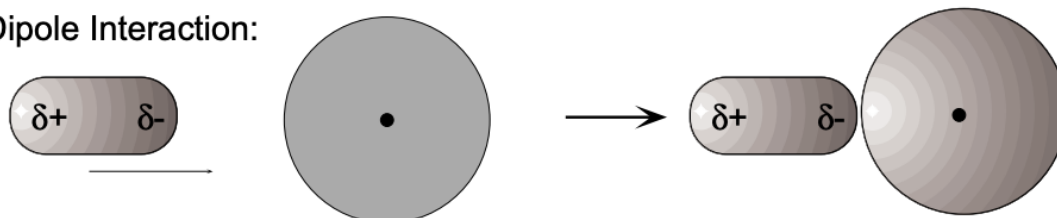

Figure 11
2. **Dipole-Induced Dipole Interaction:** A dipole in one molecule can interact with and polarize the electrons of a neighboring non-polar molecule, thus generating an induced dipole which will experience an attractive force with the polarizing, polar dipole (fig. 11). P. Debye showed that in a molecule with a "polarizability" of ( $\alpha$ ) the attractive potential arising from dipole-induced dipole interaction is given as: